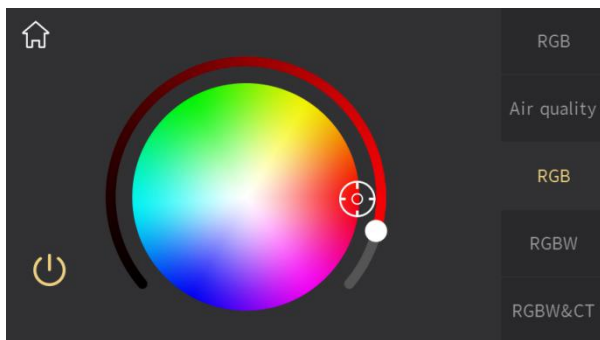

Fig.2.7.1
- ② **This area displays the page description identification of RGB dimming function page, user can define the description through ETS.**
- ③ **Return to the home page by touching this icon;**
- ④ **This ring slider is used to adjust the color of RGB lamp;**
- ⑤ **This icon is the color palette;**
When RGB dimming function is configured as RGB, function page interface as shown in Fig.2.7.1, sliding ring slider④ to adjust the color of RGB lamp, when ring slider④ is slid to the left bottom, RGB lamp is completely OFF, at this time, the button① become gray, and no reaction when operate the color palette⑤.